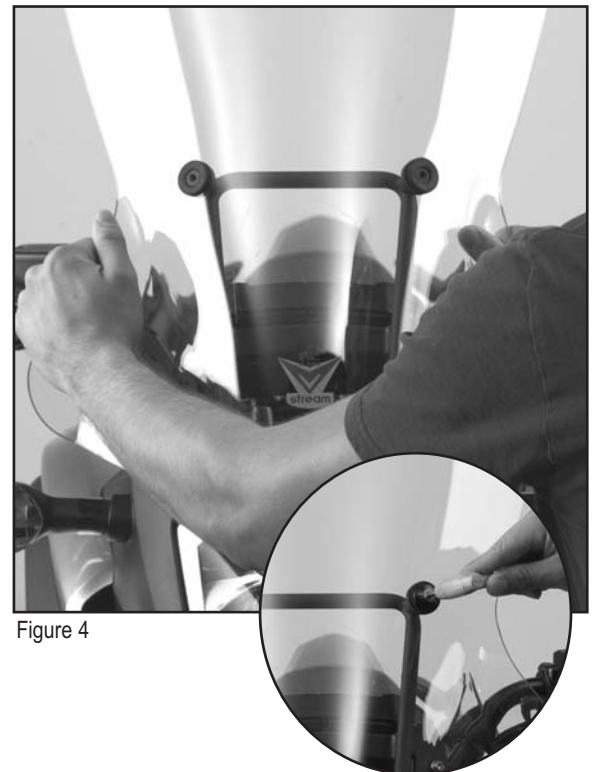

Figure 4
3. Install Windscreen to Mount Bracket. **Figure 4**
- Cap, Aluminum (4)
- Screw, M6 (6) **(4mm Hex Key)**